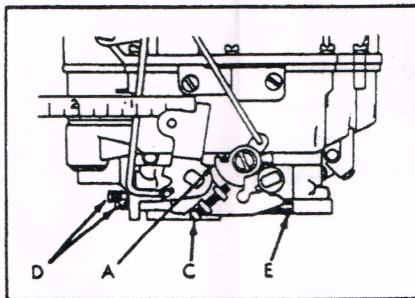

Figure 6
- Adjustment "A". (See figure 6.) Loosen clamp screw on choke lever. Insert feeler gage (see Adjustment Data Table, for correct size) between the lip of fast idle cam and the boss on the flange casting (at A, figure 6). With choke valve held tightly closed, take slack out of linkage and tighten clamp screw on choke lever.
- Adjustment "B". (See figure 6.) With choke valve held closed and fast idle adjusting screw (C), or fast idle adjusting tang, on high step of cam, rotate screw (C) or bend tang, until throttle valves are open the distance listed in Adjustment Data Table between throttle valves and carburetor bore, on side opposite idle adjusting screws.
XI. IDLE ADJUSTMENT. (See figure 6.)